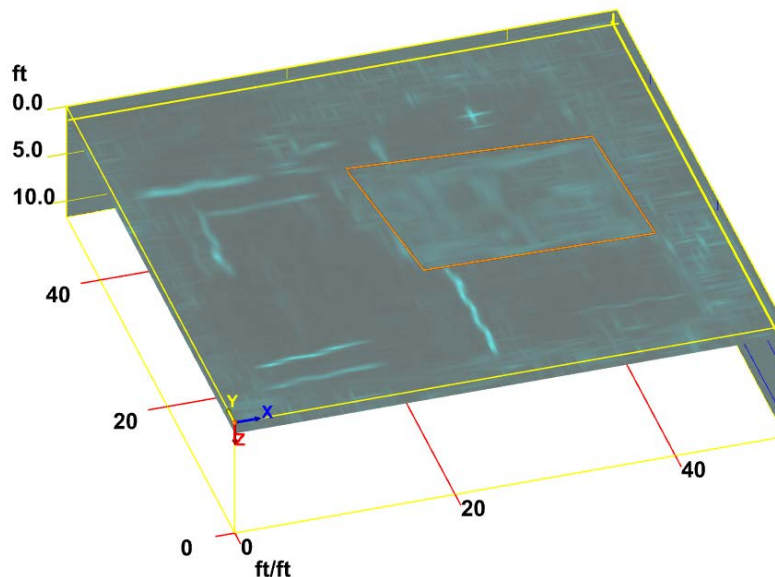

Figure 23: Data display in 3D-View. A 50x50 ft (15.25 x 15.25 m) testing area with metal lines and a rectangular clay layer (outlined in orange).
**3D-View** adds the three-dimensional cube/slice viewing capability to RADAN as well as the ability for the user to add their own interpretations of what the data displays (Figure 23). This shows the entire site at once in a plan view or as a user-selected perspective view of the data "cube". There is no limit to the dimensions of the survey area.